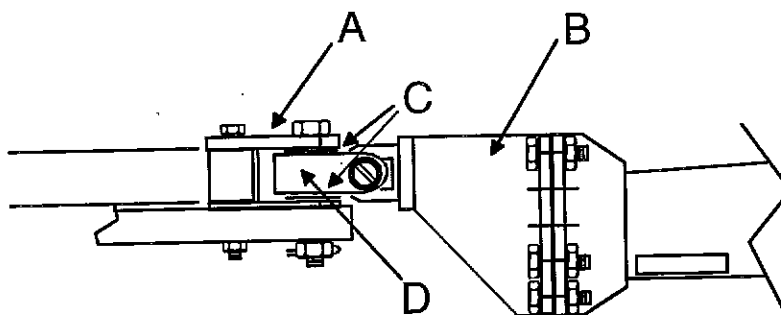

Figure 7. Drawbar Installation
When hooking the harvester to the tractor, refer to Figure 7 and the procedures below.
8. Attach the harvester to the tractor with yoke weldment (Figure 7-A) and bolts provided. Be sure to install the hardened washers (C) between the yoke (A) and the hitch clevis (D). The existing tractor clevis may be used if a 3" spacing can be maintained. Install hardened washers (C) to shim the hitch clevis (D) so that it is snug. If the tractor drawbar mounting hole is smaller than 1 3/8", a 1 1/4" pin is available from your Art's Way Dealer (AW Part No. 456220). If the tractor drawbar mounting hole is larger than 1-3/8", a bushing should be installed.
9. Cycle the lift cylinder and observe the lift height. Position the front bolt-on hitch (Figure 7-B) to obtain the desired lift height, while still allowing adequate penetration into the ground.